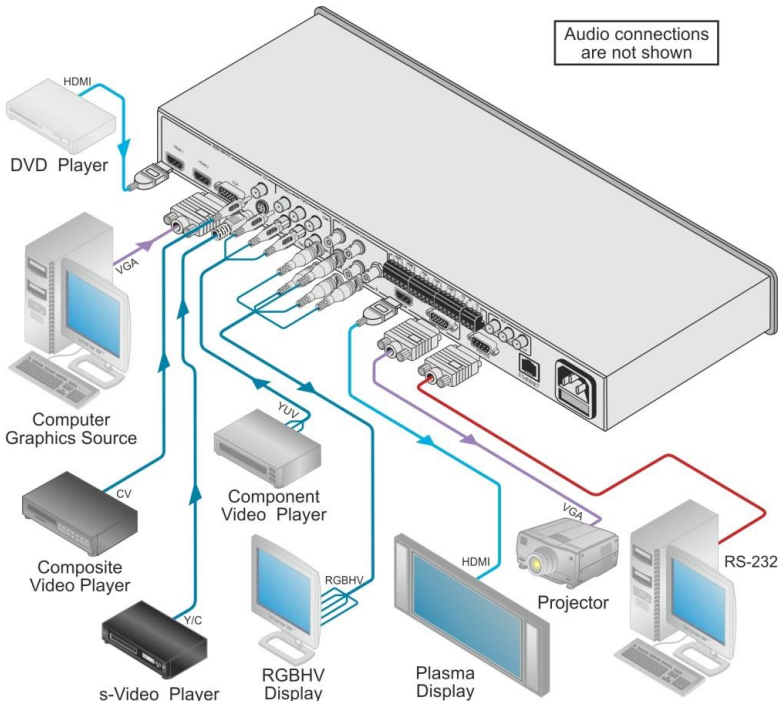

Figure 3: Connecting the VP-441 Presentation Switcher / Scaler
To connect the **VP-441**, as illustrated in the example in Figure 3, do the following:
6. Connect the audio input signals to the AUDIO IN terminal block connectors, as required (not shown in Figure 3).
10. Connect the audio output signals to the OUT stereo analog audio acceptor and/or the digital audio acceptor, as required (not shown in Figure 3).
11. Connect the power cord (not shown in Figure 3).